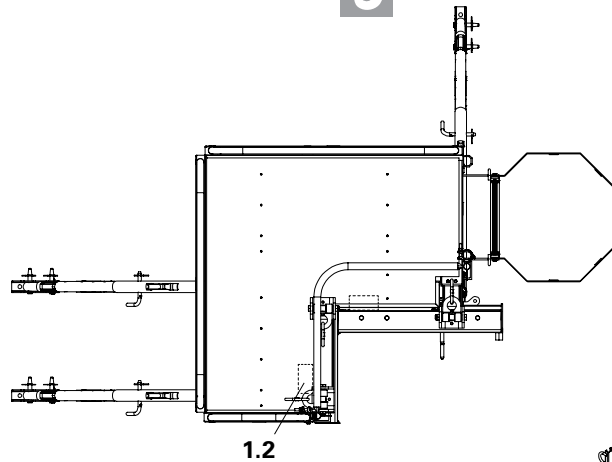

Fig. A4.02
2. Position formwork half against locating boards (1.2). (Fig. A4.02)